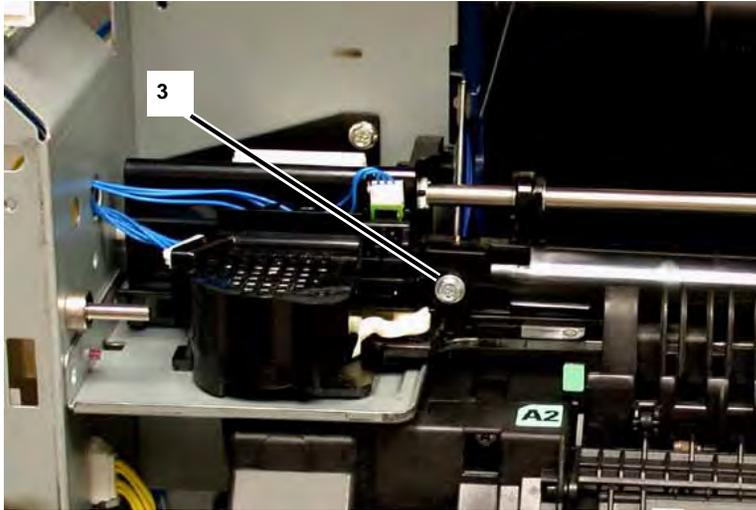

Figure 1 Removing Screw
3. Remove the Motor Cover (1 Screw) (Figure 1).